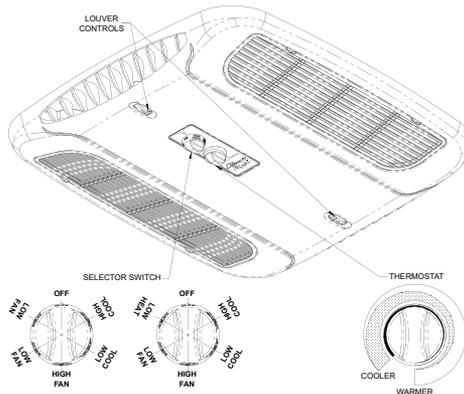

FIGURE 1
- The Selector Switch** – The selector switch determines which mode of operation the Heat Pump will be in. By rotating the selector switch, the operator can obtain any system function desired. System functions vary depending upon options of both the roof top unit and ceiling assembly. Figure 1 shows selector switch location and lists all available functions by model.
#### I. For Cooling (Refer to Figure 1, page 9).
#### IV. For Heating ("Elect-A-Heat" Ceiling Assembly Model Only) Refer to Figure 1, page 9).
#### V. For Air Circulation Only (Refer to Figure 1, page 9).